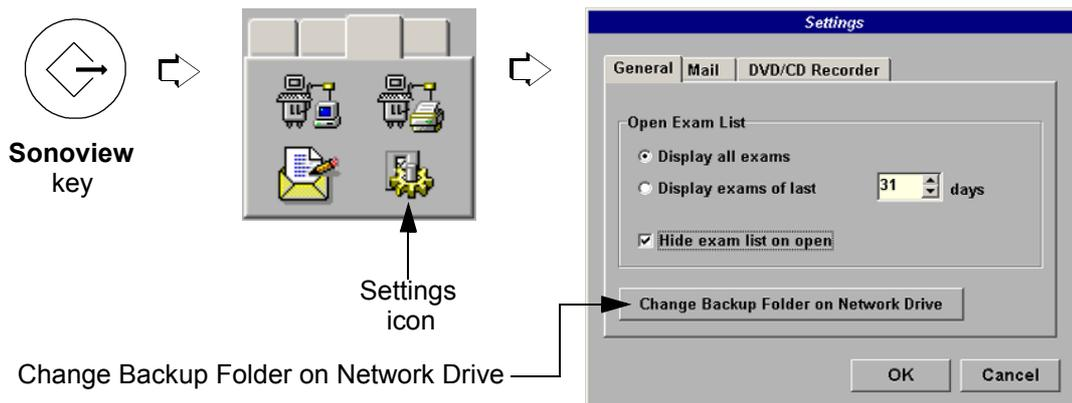

**Figure 8-23 Backup Folder on Network Drive**
- 8.) In the displayed window click on the CHANGE BACKUP FOLDER ON NETWORK DRIVE button. The first line in the dialog (see: Figure 8-23) displays the name (e.g., serial number A09008) of the “Backup Folder” used for storing data on, and reading data from the network drive.